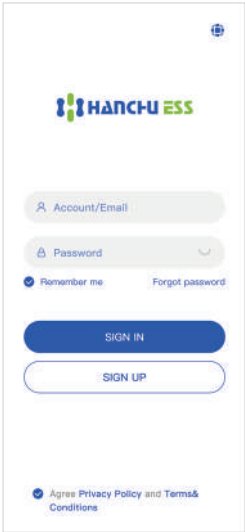

Fig. 1
①. Registering and login
- If you have already registered, you can log in directly . Then you can turn to "② Bind devices".
- If you don't have an account yet, tap "**Sign up**" to register as shown in Fig. 1.